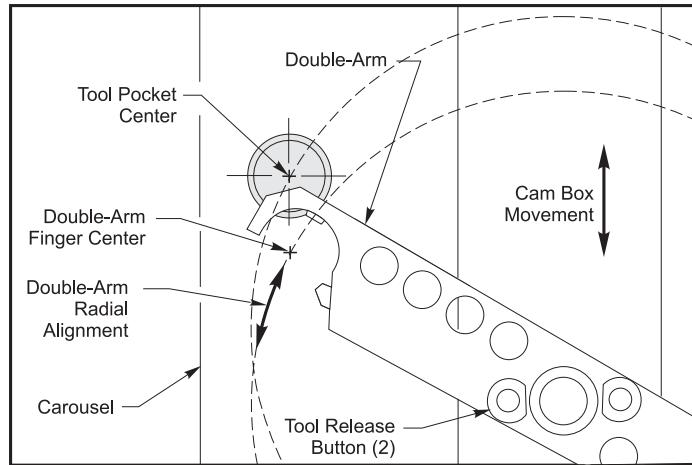

Figure 3.12-9 Cam Box / Double Arm Alignment, top view.
8. Place the split tool into the double arm end beneath the tool pocket. The split tool P/Ns for 40T are T-2084 for CT type and T-2087 for BT type; P/Ns for 50T are T-2089 for CT type or T-2088 for BT type. Depress the tool release button on top of the double-arm and insert the split tool. Slightly push the double-arm in the clockwise direction to remove backlash in the drive assembly. Refer to Figure 3.12-9.
10. In order to adjust the radial alignment of the split tool to the double arm, loosen the lock ring SHCS and adjust the double-arm. Refer to Figure 3.12-9.
17. Press the ATC FORWARD button until the arm lowers and is parallel to the x-axis. Insert a split tool into the double arm by pressing the tool release button located near the shaft. Refer to Figure 3.12-9